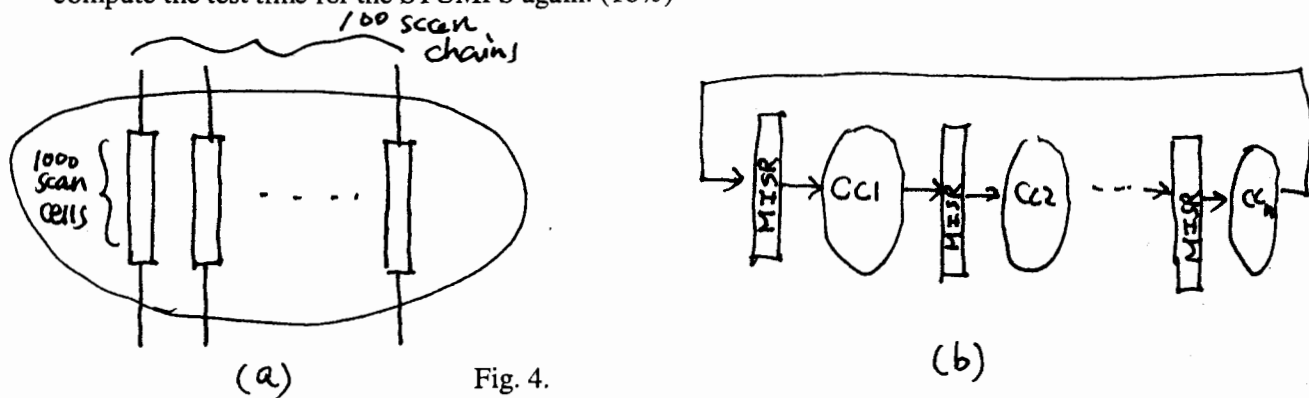

Fig. 4.
- Compare the performance of a STUMPS design and a BILBO design. Assume that both designs operate at 200MHz and the circuit under test has 100 scan chains each having 1000 scan cells as shown in Fig. 4(a). (a) Compute the test time for each design when 100,000 test patterns are applied. For BILBO, we assume that MISR achieved by each scan chain in BILBO mode can work as test patterns simultaneously as shown in Fig. 4(b) (b) In general, the shift (scan) speed is much slower than a circuit's operating speed. Assume that the shift speed is 20MHz, and compute the test time for the STUMPS again. (16%)